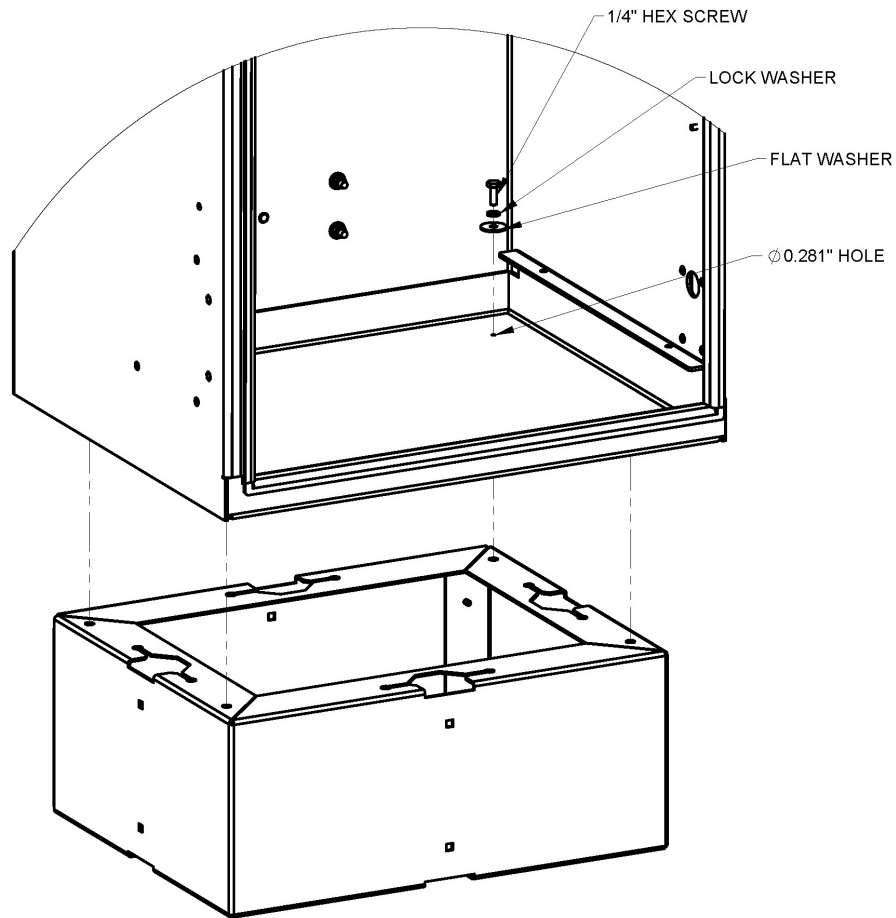

Figure 9: Securing enclosure to the plinth
6. Secure the enclosure to the plinth with the supplied 1/4 inch hardware. Torque bolts to 7 Nm (65 in-lb). See Figure 9.